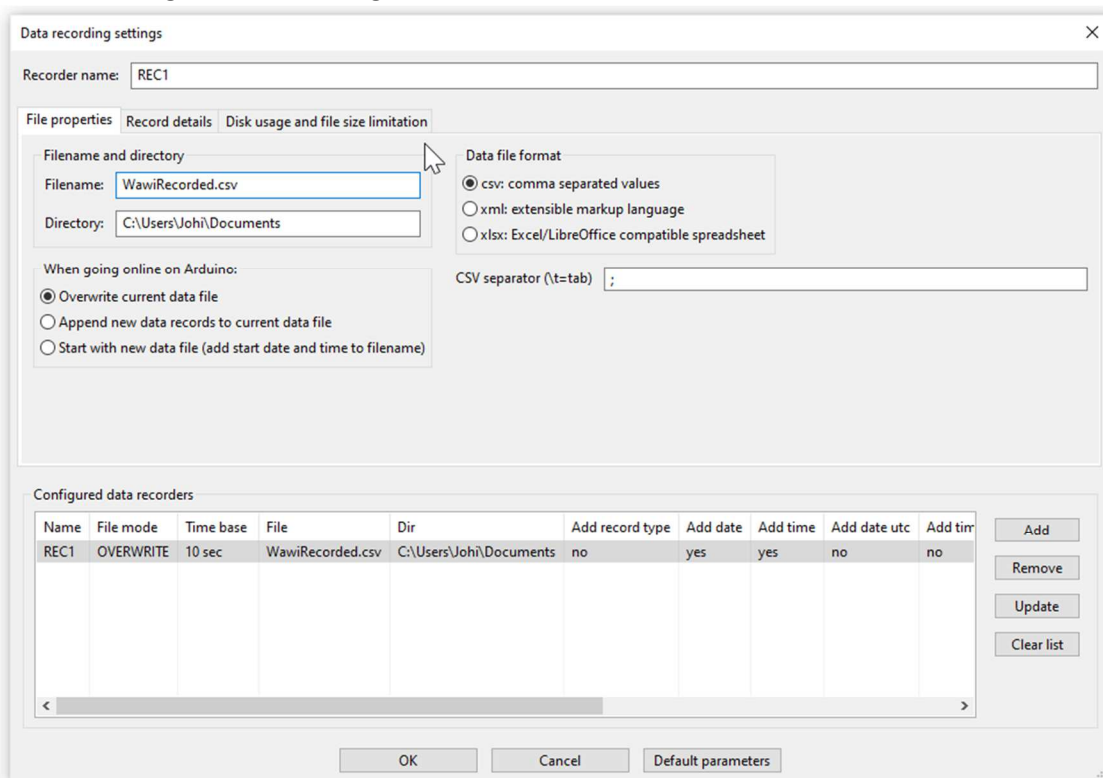

Fig. 3.7. Define REC1 as a data recorder time based.
- ✓ Fill in the table as indicated in fig. 3.7.